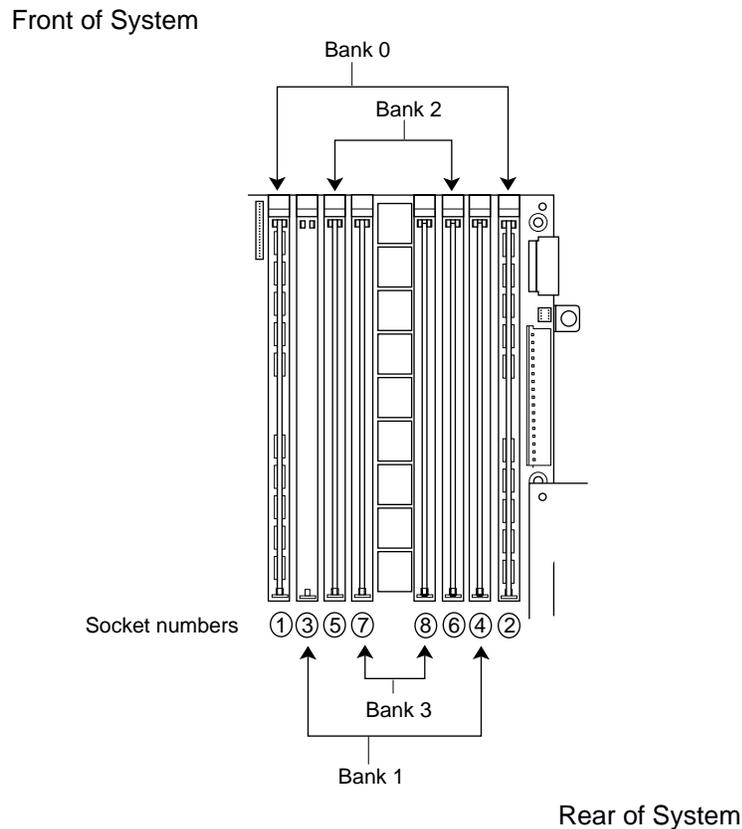

Figure 5-7 How DIMM Pairs Are Grouped In Origin200
6. Always remove DIMMs in pairs, starting with the pair closest to the center of the banks (bank 3). See Figure 5-7.